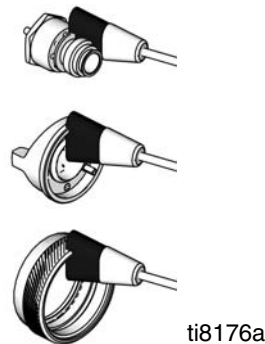

FIG. 15: Clean air cap, ring and fluid nozzle
11. Scrub the air cap retaining ring, air cap, and fluid nozzle with the soft-bristle brush (see FIG. 15). To clean out air cap holes, use a soft implement, such as a toothpick, to avoid damaging critical surfaces. Clean the air cap and fluid nozzle daily, minimum. Some applications require more frequent cleaning.